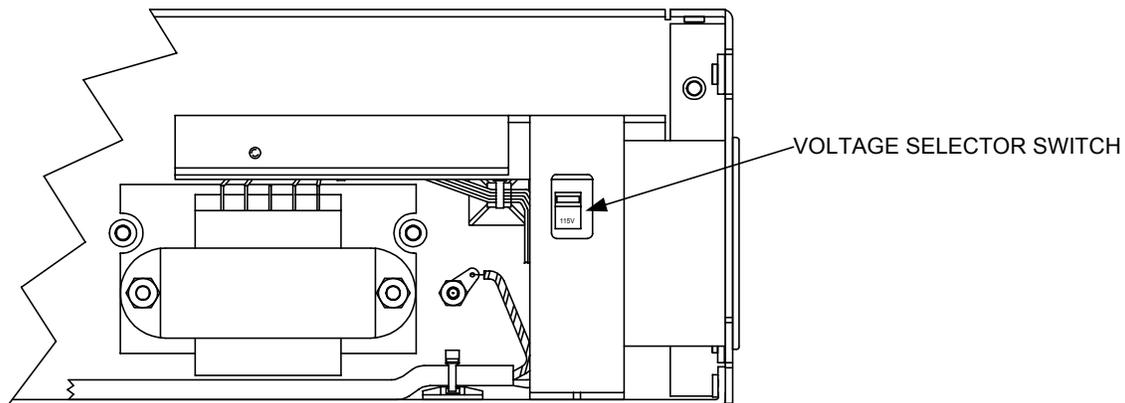

Figure 2-3. Voltage Selector Switch
- (1) Remove fifteen #4 screws.
- (2) Remove five #6 screws.
- (3) Lift and remove the cover slowly and disconnect the speaker.
- b. Select the correct voltage selector switch position the on the power supply module (see Figure 2-3).